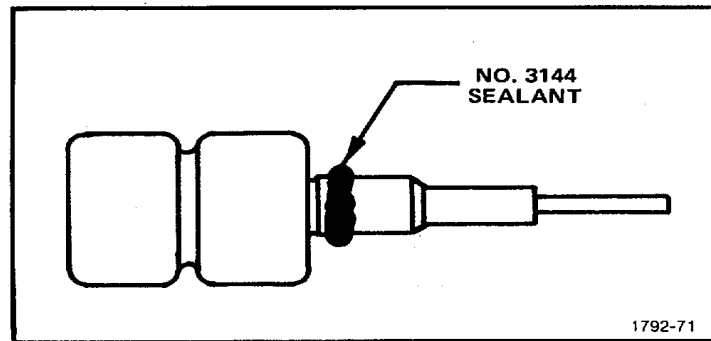

Figure 5-18. Application of sealant to FINE control bushing
18. Install FINE POSITION control (See Figs. 5-18 and 5-19)
1. Form a bead of No. 3144 sealant around the bushing threads as shown in Fig. 5-18.